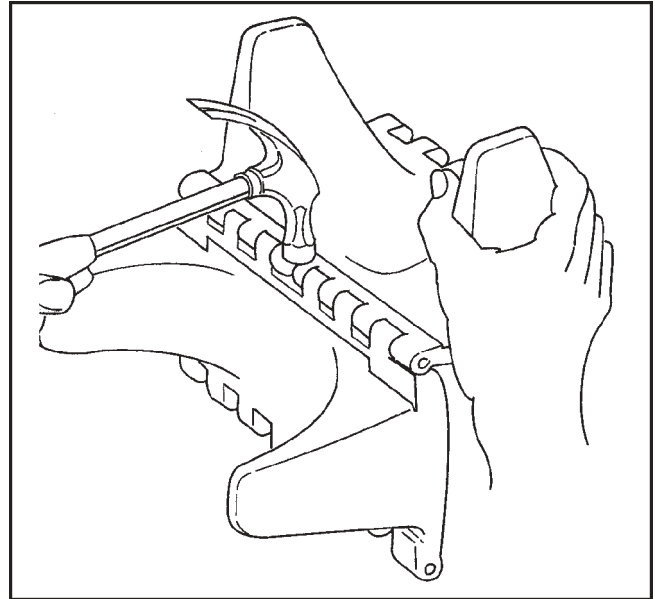
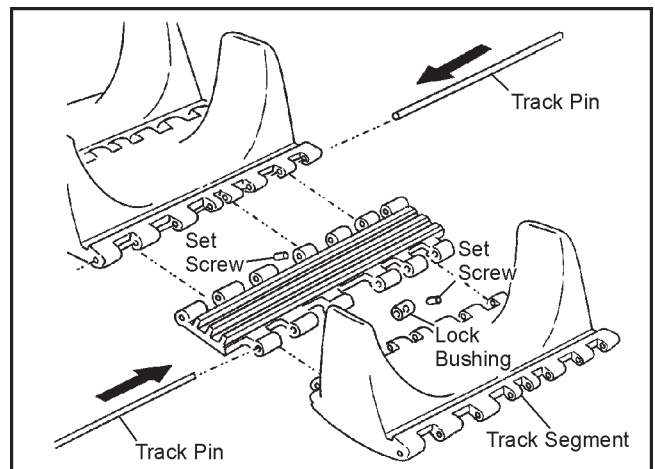

Figure 11-1 Track Assembly
Figure 11-2 Track Assembly
1. Join 2 track segments together, lining up the 1/4" holes. See Fig. 11-1. Hammer a track pin through the holes, placing the lock bushing as shown in the centre space provided. When installing the track pins which hold the track segments together, alternate the direction in which the pins are pushed through the track segment holes. See Fig. 11-2.